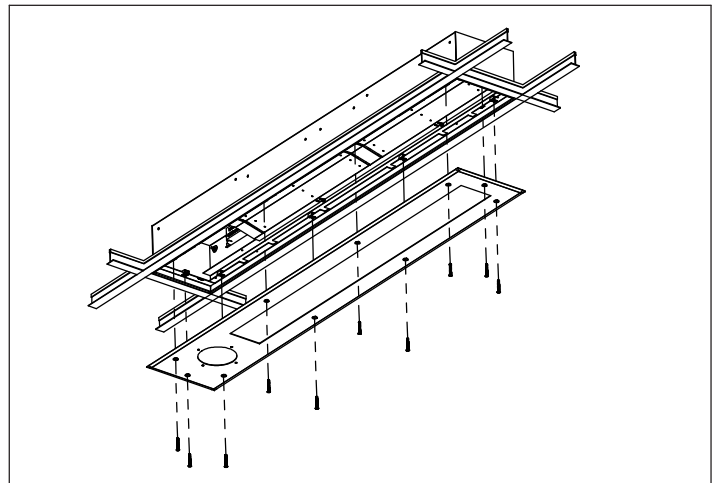

Figure 4
4. Re-attach Frame to Housing. (Fig. 4)